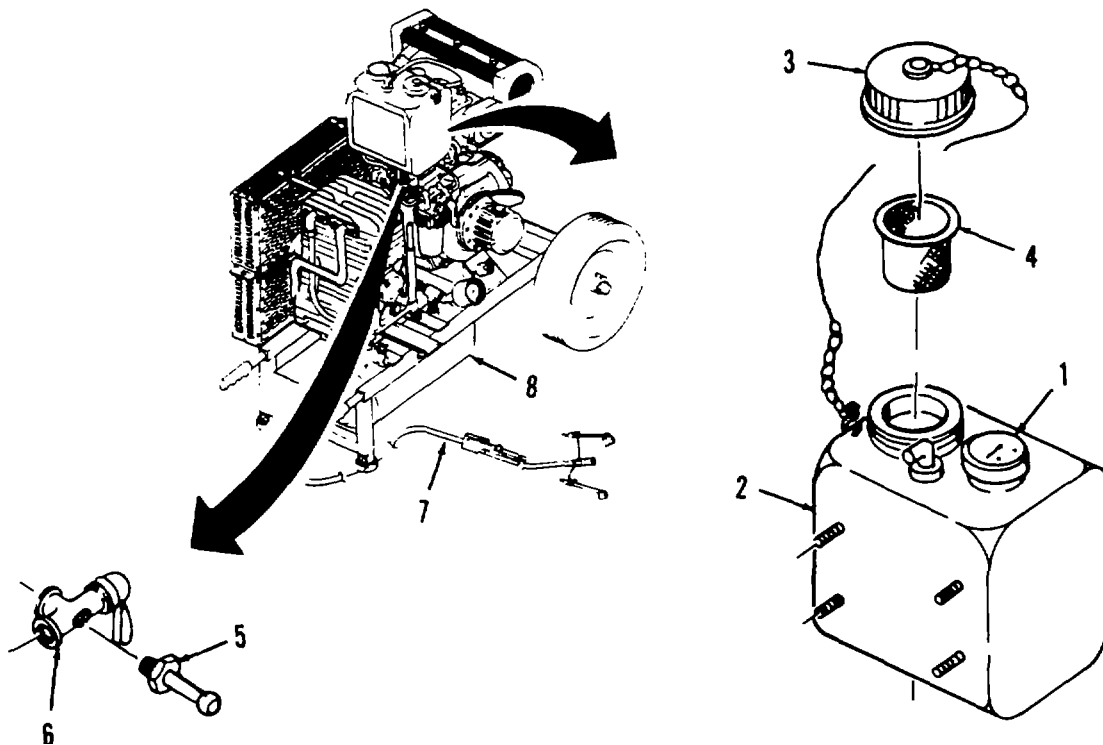

Figure 2-2. Refueling Air Compressor Unit.
a. Filling the Fuel Tank. (Refer to Figure 2-2.) Before starting the air compressor unit, the fuel tank must be filled with fuel. The unit can be operated on various fuels or JP8 jet fuel. Contact your supervisor to find out which fuel will be used in your unit. To fill the fuel tank, perform the following procedures.
(1) Check the fuel tank gauge (1) on the top of the fuel tank (2) to insure that fuel tank is filled with fuel. If fuel tank is not full, perform steps (2) through (5) to fill the tank.
(1) Connect the positive connector of the power source to the top terminal of the motor starter solenoid.
(2) Connect the negative connector of the power source to the axle of the unit. Rotate the connector a little to insure that the connector is in good contact with the metal of the chassis.
d. Connection of Air Hose To Unit. (Refer to Figure 2-2). Before the air compressor is fully operational, the air hose must be installed onto the air receiver tank. To install the air hose, attach the air hose (7) into the air receiver tank (8).